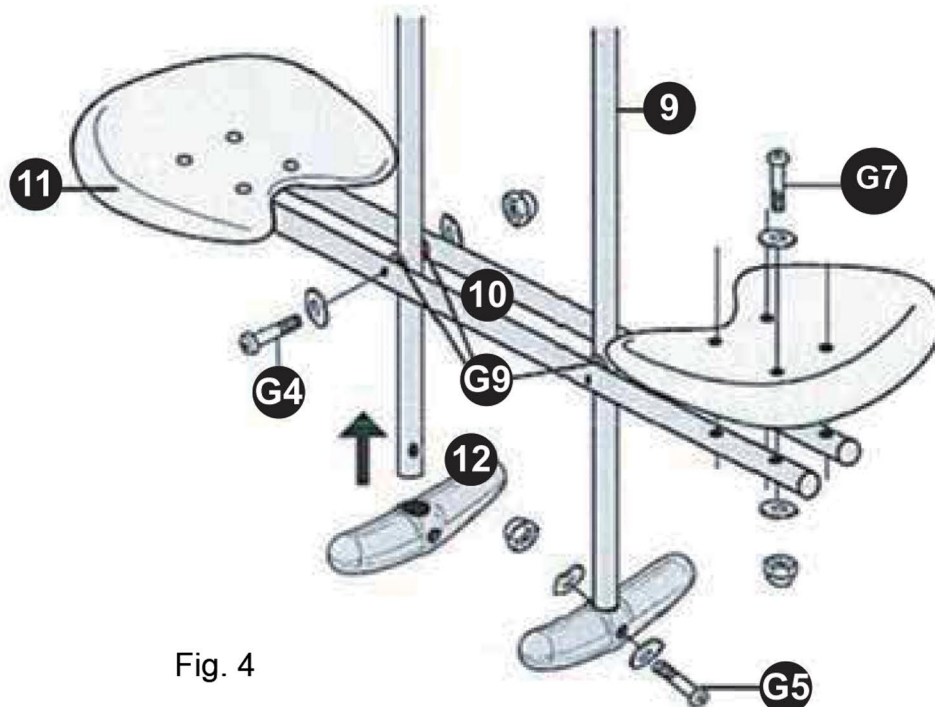

Fig. 4
Step 6. Insert 1 G9 Plastic Spacer into either side of the holes near the center of the Glider Legs (Fig. 4).